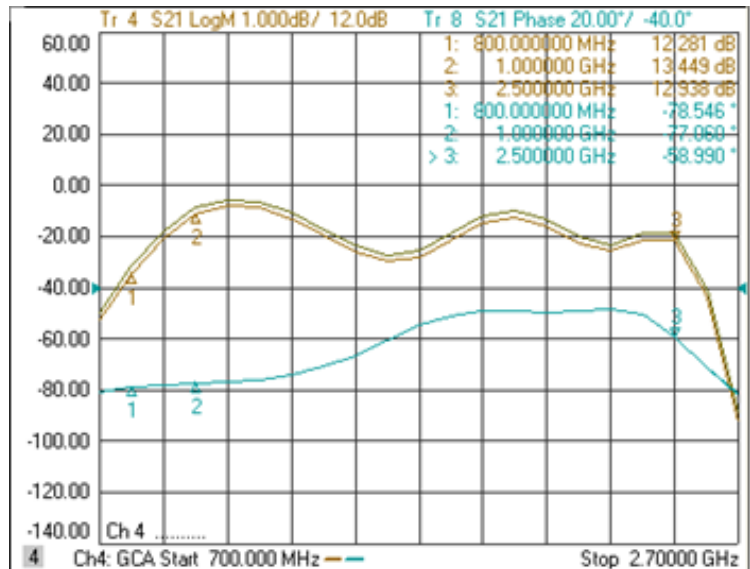

Figure 4-3. Typical Module Response
- If the gain is slightly low (i.e., several dB below typical), try disconnecting the inputs from the A8-A15 Final Module one at a time, then reconnect them. Note the difference in response when disconnecting the module; if any module causes less of a change in gain than the others, check the module and the coaxial cable associated with that module. Typical module response is shown in Figure 4-3.